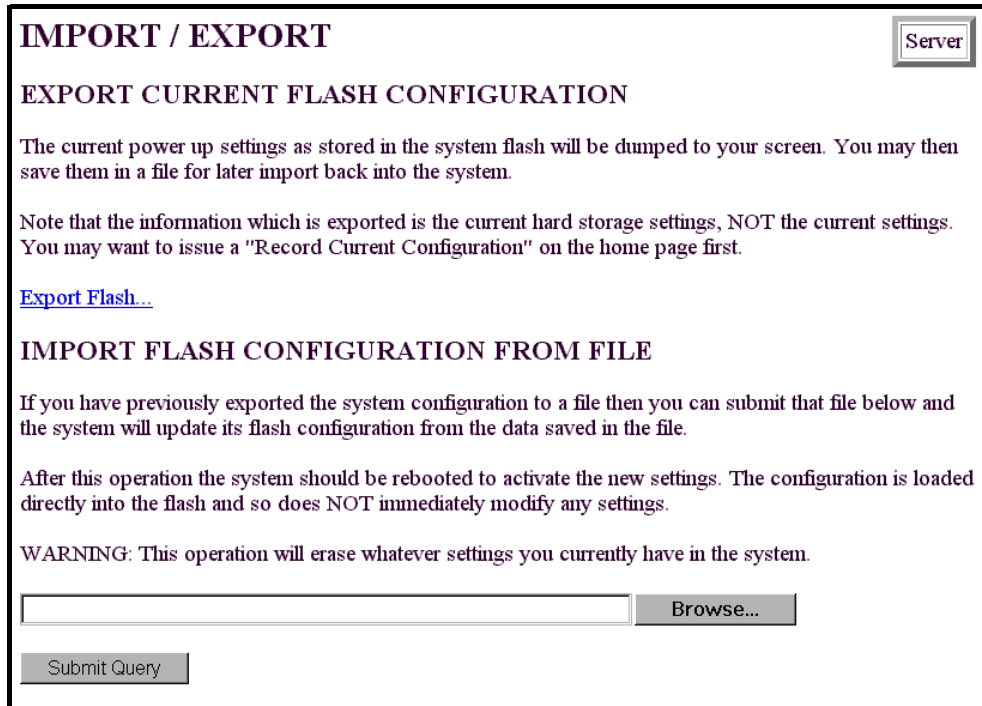

Figure 38. Import/Export main window
- To import or export a configuration, click on Import/Export under the Configuration Menu to display the Import/Export main window (see figure 38).